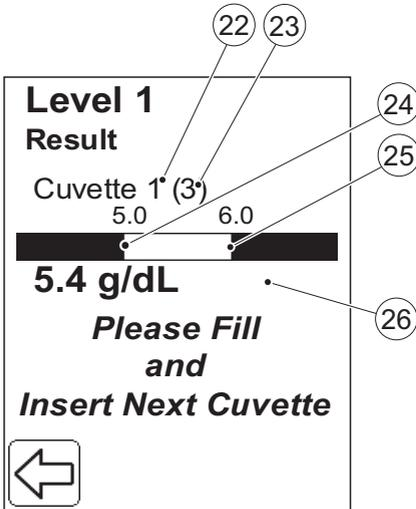

FIGURE 8-23
- q) Place the Cuvette in the Cuvette holder and gently insert it into the measuring position. *FIGURE 8-23* will be displayed.
If *FIGURE 8-23* is displayed and the test is to be continued:
If additional tests are required *FIGURE 8-23* will be displayed again.